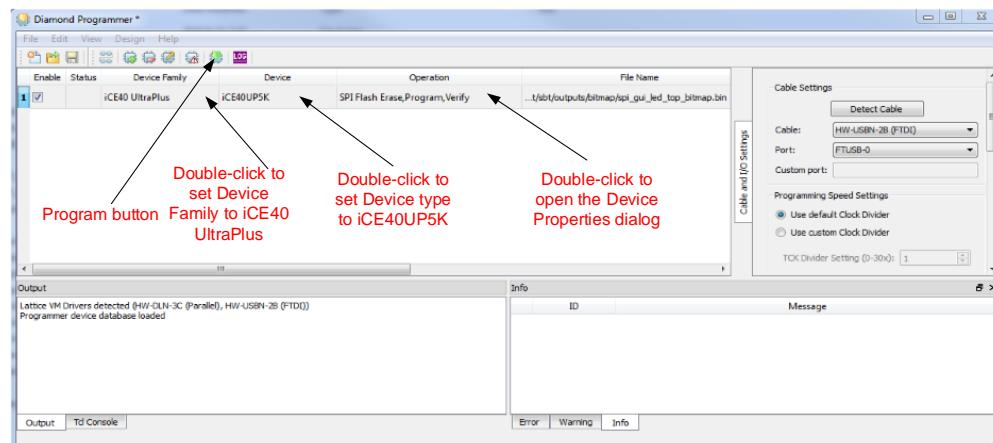

Figure 8.3. Setting Status in Diamond Programmer for Programming Flash
4. Set **Device Family** to iCE40 UltraPlus" and **Device** to "iCE40UP5K". Refer to Figure 8.3.